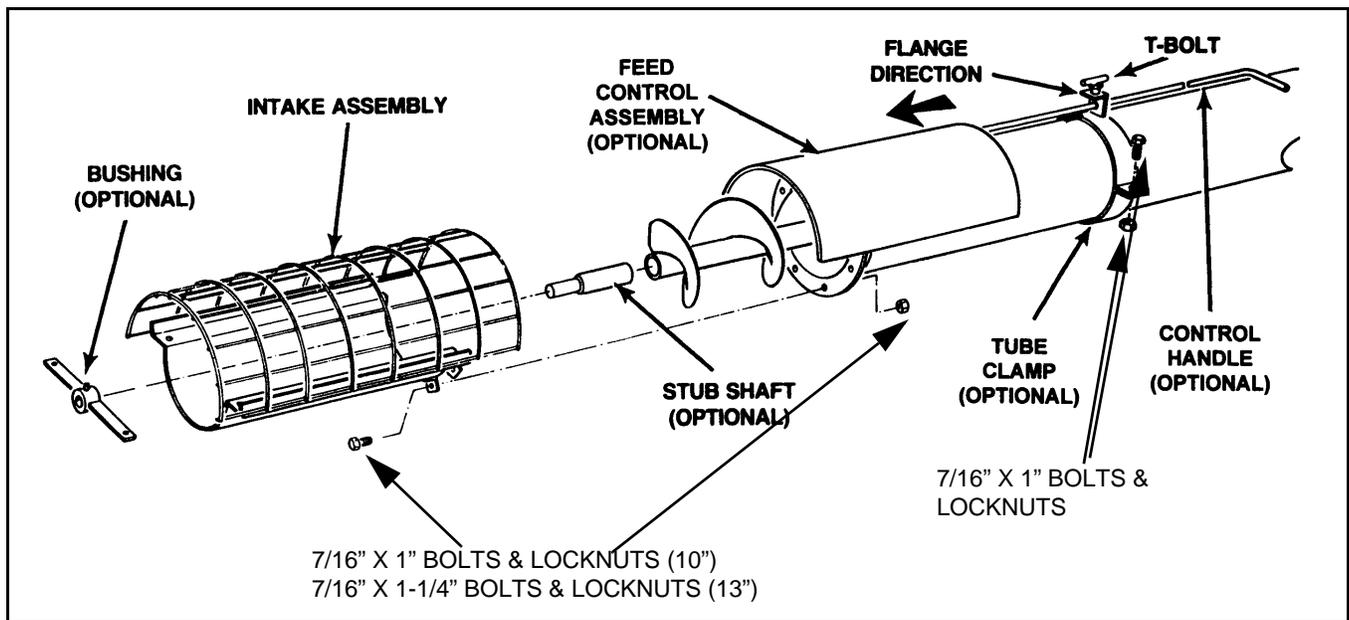

Figure 3.3 Intake/Optional Feed Control
1. Attach intake to lower end of auger tube with four 7/16" x 1" (7/16" x 1-1/4" for 13" auger) bolts and locknuts (**except the 6" auger** which requires three bolts and locknuts) (Figure 3.3).
- Attach the feed control tube clamp (Figure 3.3) to auger tube with two 7/16" x 1" bolts and locknuts. Do not tighten at this time.
In order to provide additional support for the lower flighting, an optional support bushing package is available. See Figure 3.3. To install: